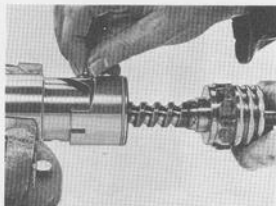
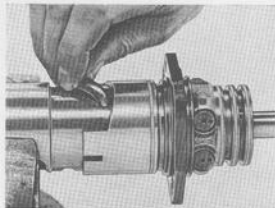

Fig. 6-92. Inserting balls
Fig. 6-93. Fitting pipe halves
7. Clamp the piston between soft jaws in a vice. Slide the sleeve (24) onto the worm. Insert the worm far enough into the front piston bore that its top comes opposite the first recess for the pipe half. Fill the bore (Fig. 6-92) with the balls. Screw the worm further down by hand so that the balls are carried up to the rear piston for the recirculating pipe. When 16 balls have been inserted, the first ball should appear at the other recess. Thereafter insert the remaining 7 balls. The balls should be greased in order to facilitate installation. Place the halves together and install them, see Fig. 6-93.